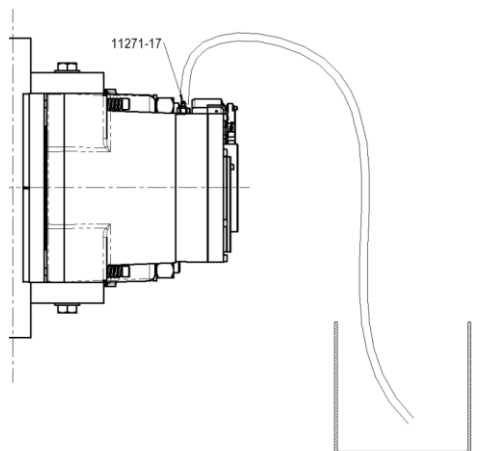

Fig. 2.7
1. Connect the bleed screw 11271-17 to a 6mm ID flexible hose and put the end of the hose into a container Fig. 2.7.